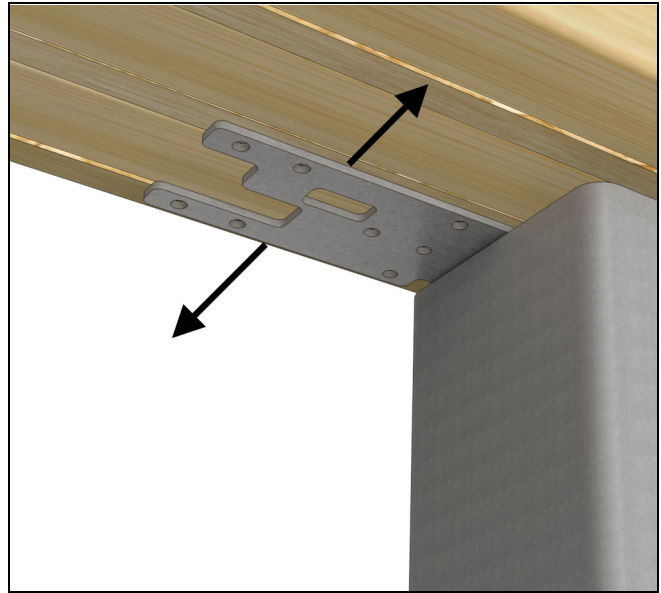
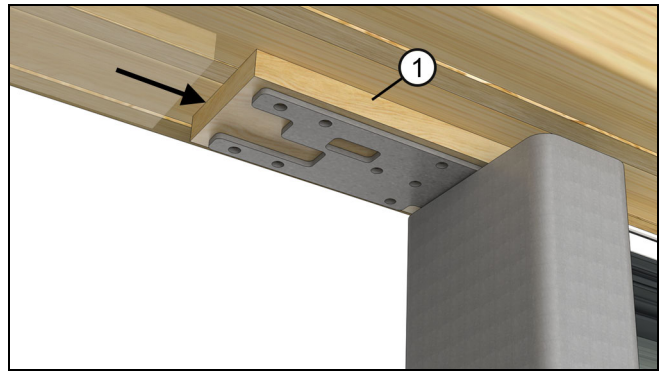

Figure 127
Figure 128
14. Adjust the top mullion bracket and block/shim the bracket firmly against the RO and to seat the bracket in the hollow of the tube steel. Fasten the bracket with the supplied 3" screws. See Figure 127, Figure 128, and Figure 129.